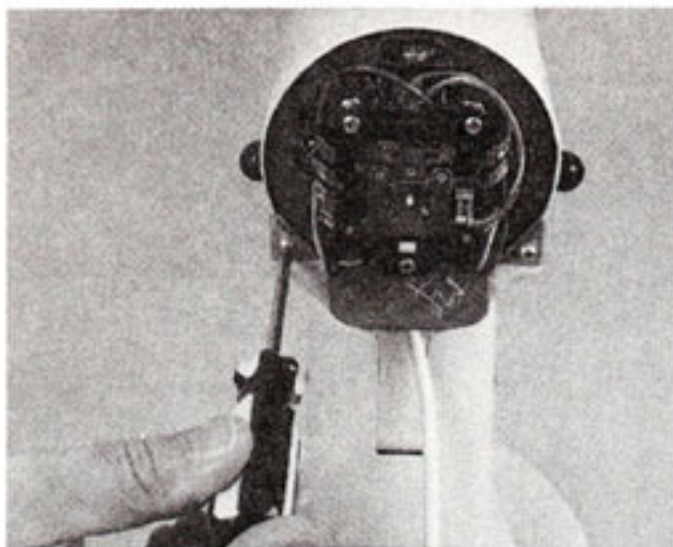
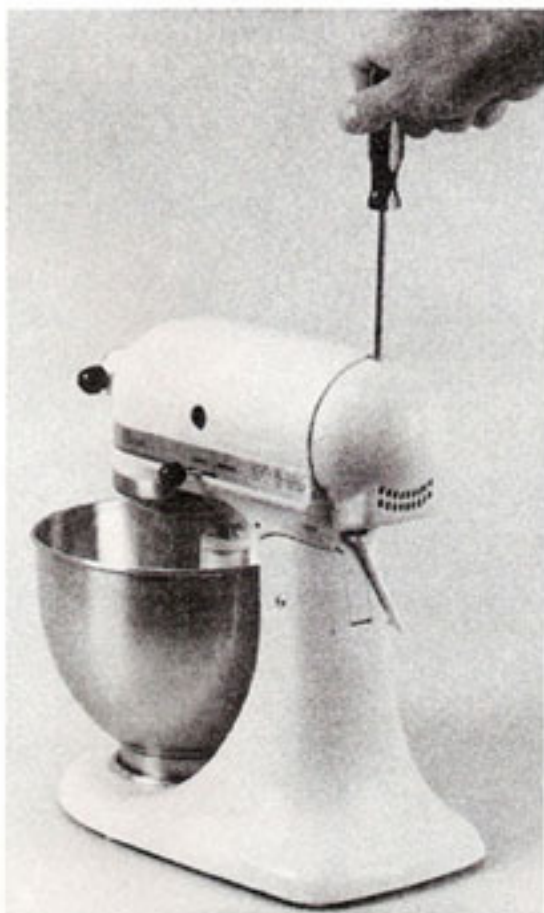

Fig. 83
Fig. 84
- G. Place trim band (Fig. 83) on the gear case and motor housing and with the two #6-32 x $\frac{3}{16}$ " binding head screws, fasten it to the end of the housing. Tuck in all the wire leads and place the end cover on end of machine and secure it with the #6-32 x $\frac{3}{8}$ " oval head screw (Fig. 84).